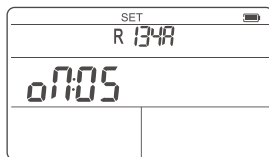

FIG.10 Automatic Shutdown and Opening Interface
3. Press **◀** button or **▶** button briefly to set the automatic shutdown time (5, 10, 15, 30, or 60 min)[FIG.10].